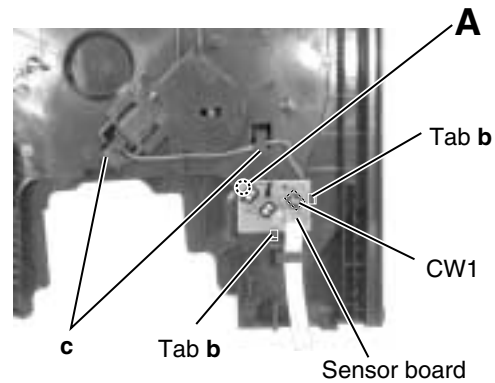

Fig.6
■ Removing the sensor board / the turn table motor assembly (See Fig.6 to 8)